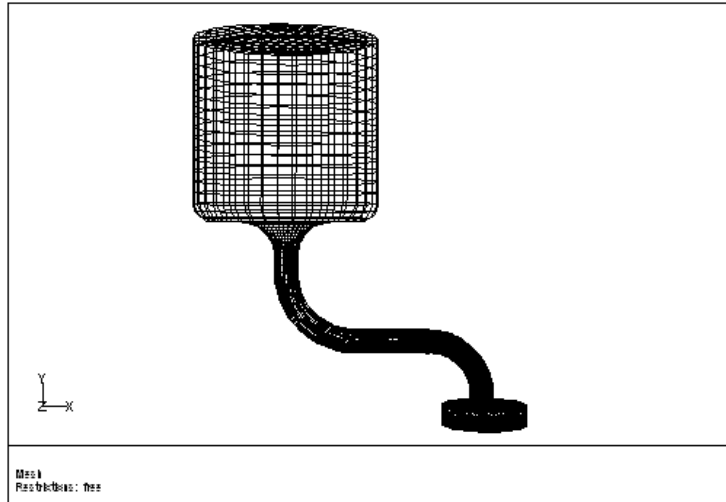

Figure 3.1: Boundary Mesh for the Valve Port
2. Display the boundary mesh (Figure 3.1).